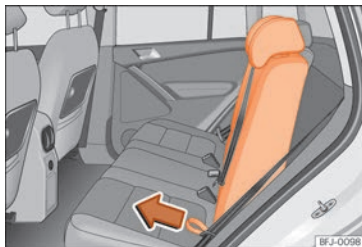

Fig. 115 Folding down and lifting the rear seat backrest
- Pull the cord **>>> Fig. 115** forward in the direction of the arrow while holding the seat backrest and move it forward slowly **>>> **.